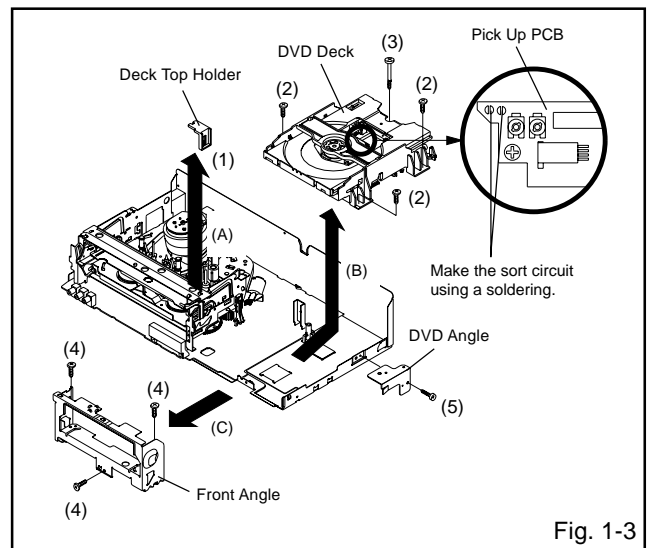

Fig. 1-3
1-3: DVD DECK (Refer to Fig. 1-3)
1. Make the short circuit on the position as shown Fig. 1-3 using a soldering. If you remove the DVD Deck with no soldering, the Laser may be damaged.
2. Unlock the support (1) and remove the Deck Top Holder in the direction of arrow (A).
3. Remove the 3 screws (2).
4. Remove the screw (3).
6. Remove the DVD Deck in the direction of arrow (B).
7. Remove the 3 screws (4).
8. Remove the Front Angle in the direction of arrow (C).
9. Remove the screw (5).